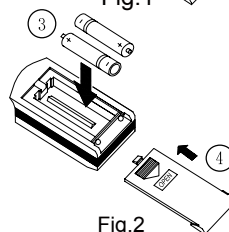

Fig.2
(2) After the operation above ,**SAVE** will be display on the liquid crystal panel, then neither the remote controller nor the wired controller the user use to set the temperature, the **SET TEMP.** will not exceed the range that has been set. For example, in the Fig.2 we set temp. range from 23 °C to 28 °C ,then the user can only adjust the temp. between 23°C and 28°C by the remote controller or the wired controller.
(3) If the upper limit is the same with the lower limit that the system can only run at this temperature.
(4) To cancel the energy saving, press the button of **FAN** and **▼** simultaneously for 5 seconds in the status of **OFF**, but temp. limit will be keep until next time to set the energy saving function.
(5) After the power cut, the energy saving function will still be store in memory.